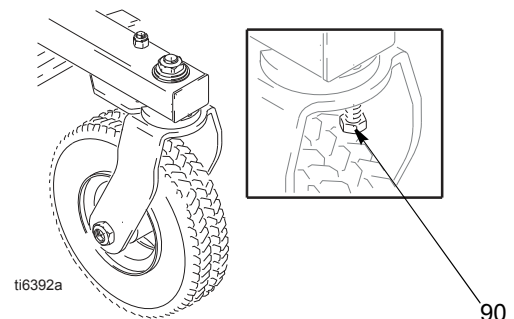

FIG. 1
7. Install screws (34) in drive housing. Torque evenly to note 3 value in Fig. 1.
9. Install front cover (52) with two screws (32).
- ① Oil
- ② Pack with bearing grease 110293
- ③ Torque to 130 - 150 in-lb (14 - 16.9 N.m)